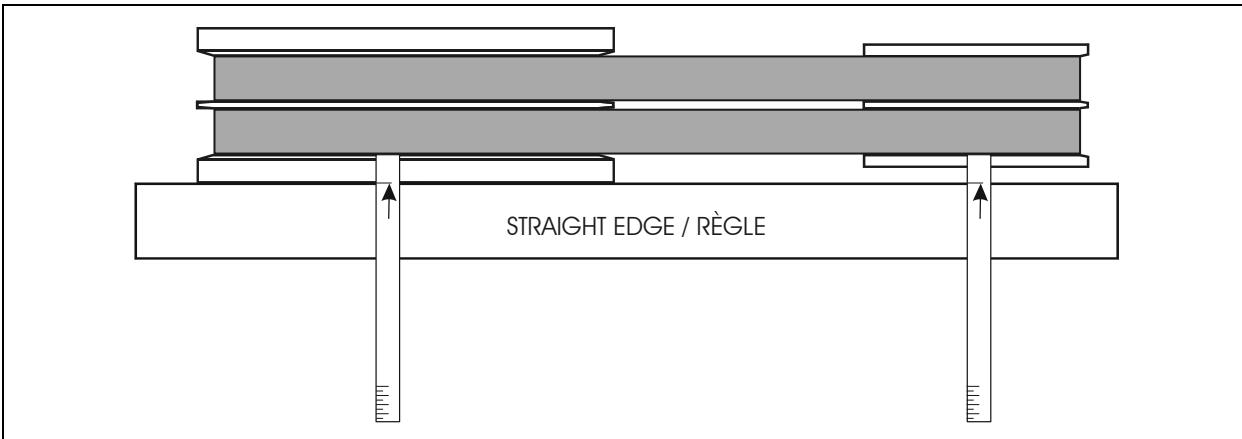

Figure 3: PULLEY ALIGNMENT
- 2- *Rest an extremity of a straight edge against upper part of the outer face of gearbox pulley (Figure 3).*